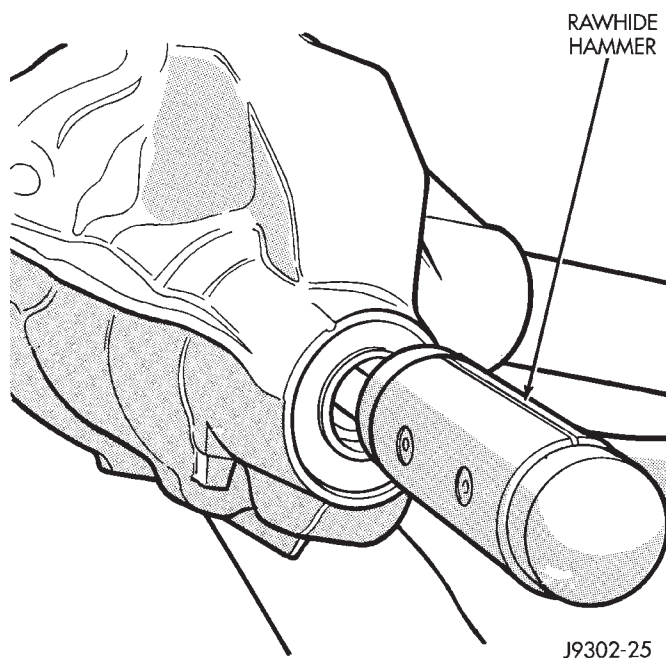

Fig. 11 Remove Pinion Gear
(13) Remove the pinion gear from housing (Fig. 11). Catch the pinion with your hand to prevent it from falling and being damaged.
(14) Remove collapsible spacer from pinion shaft.